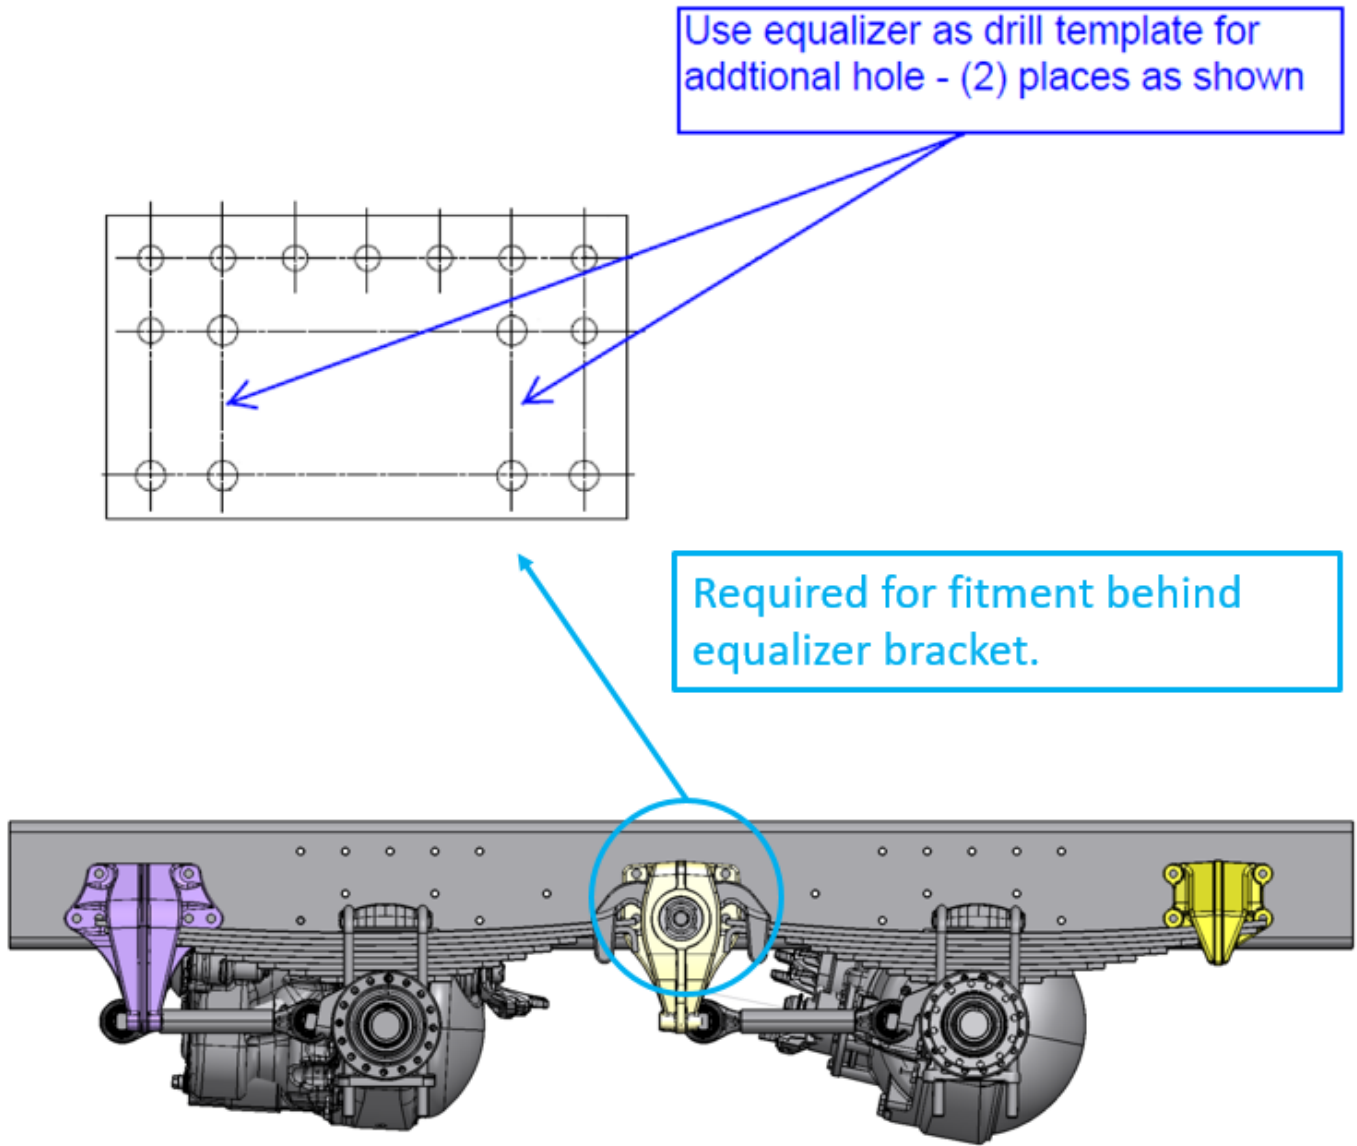

Fig. 4
2. If the vehicle has a tandem rear axle, the equalizer brackets need to be removed (see Fig 4).
7. For tandem axle suspensions, install the 15-15519-000 spacer plates between the equalizer brackets and the LH and RH frame rails. The 15-15519-000 spacer will need 2 additional 20.6 mm diameter holes drilled for correct fit-up (see Fig 4)